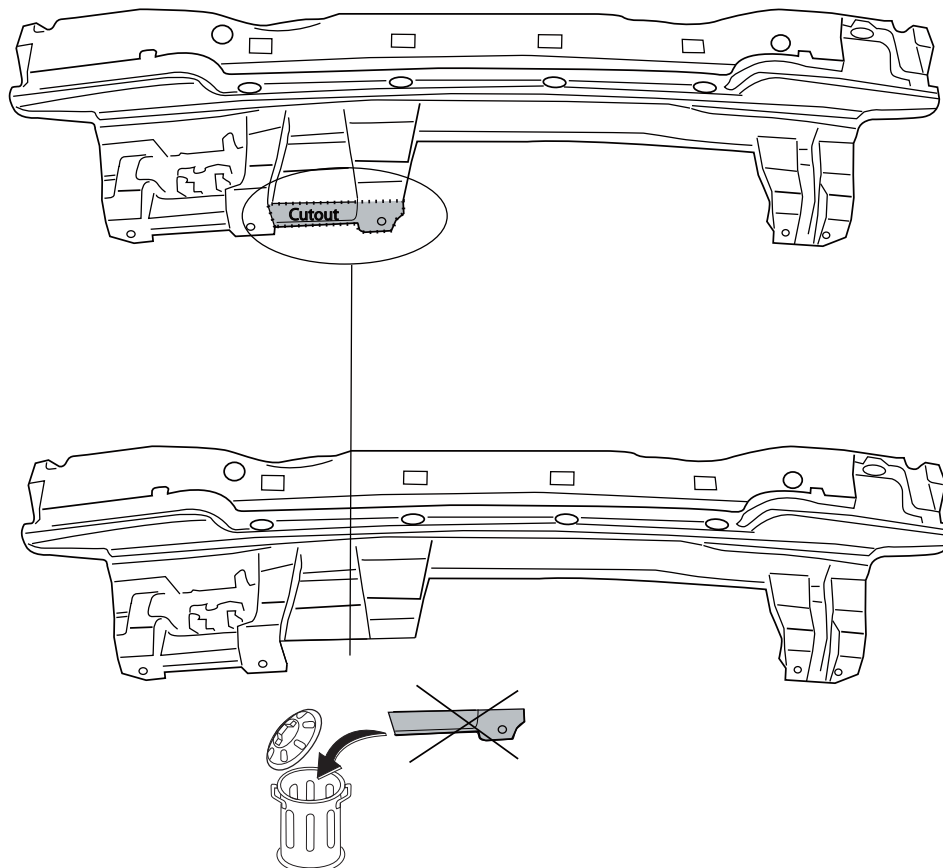

Fig.4
3. Saw out from the bumperinnerwork the section indicated in accordance with fig.4.